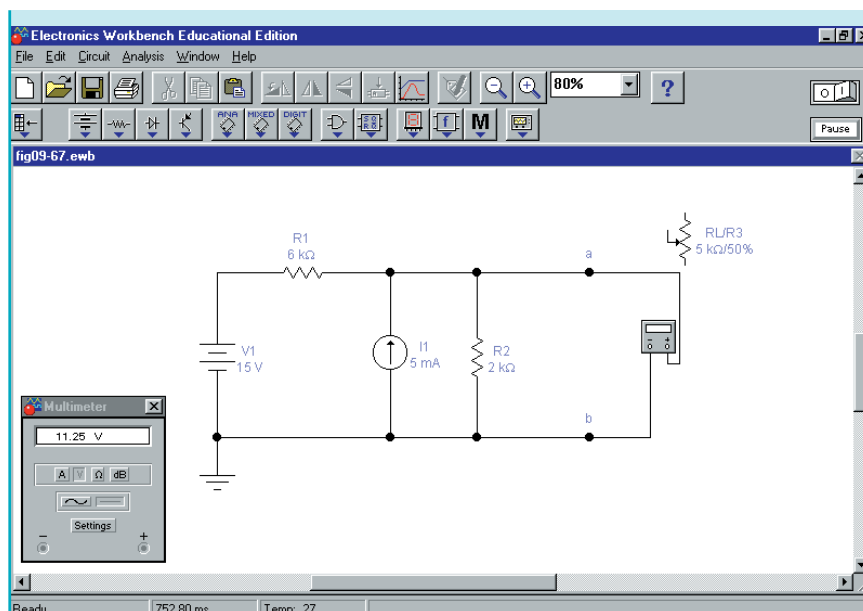

FIGURE 9-68
- b. The Thévenin voltage is measured by simply connecting the multimeter between terminals a and b . After clicking on the power switch, we obtain a reading of $E_{Th} = 11.25 \text{ V}$ as shown in Figure 9-68.